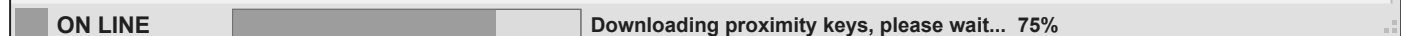

Fig. 129
- **DOWNLOADING (ON LINE):** see **Fig.129**, this indicates that the software is currently downloading any programmable settings, call button numbers/apartment numbers, dial to open numbers etc. from the GSM module.